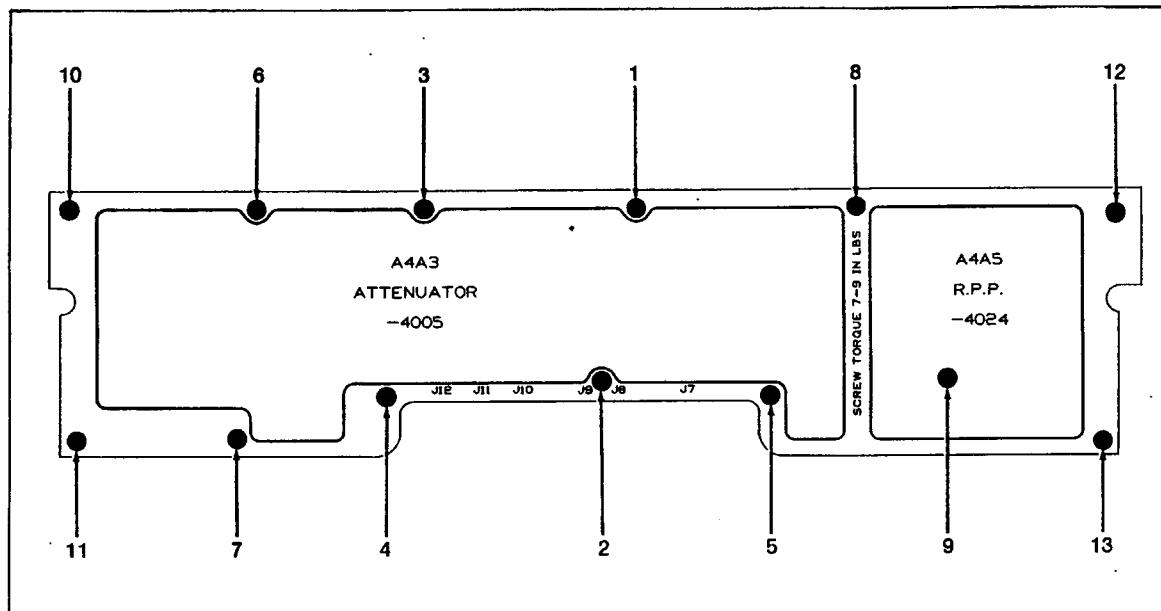

Figure 3-13. Torque Sequence, A4A3, A4A5, Top of Output Module
- d. Swing the module out 90 degrees and lock it in this position by installing the two screws (H3) in position B (Figure 3-9). Remove the A4A3 and A4A5 cover screws (Figure 3-13).
- a. Torque all screws to 3 inch-pounds in the numerical sequence shown in Figure 3-13.
- b. Torque all screws 7 to 9 inch-pounds in the numerical sequence shown in Figure 3-13. The torque value should be the same for all screws.